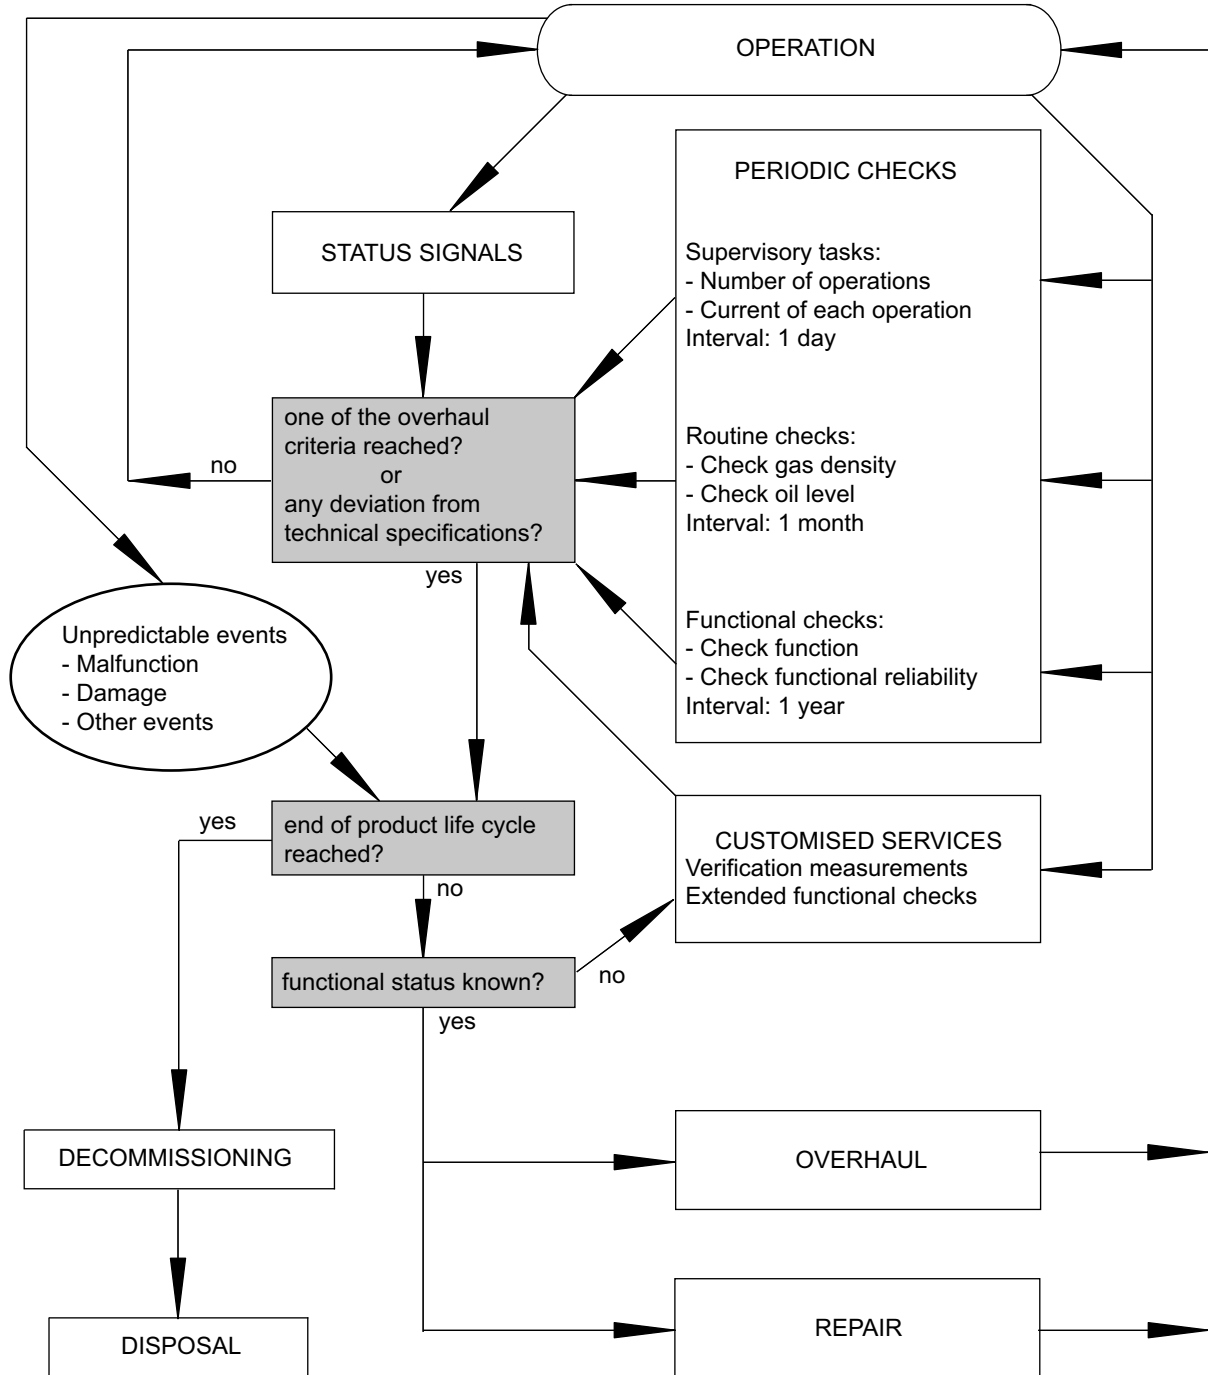

Fig. 8-1 Maintenance chart
- Fig. 8-1 Maintenance chart, page 177 for overview